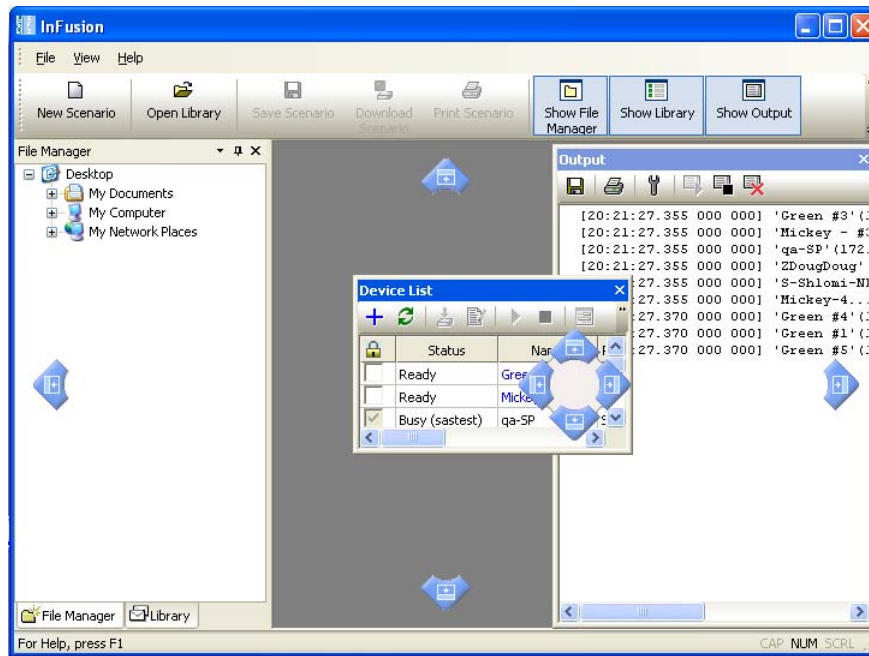
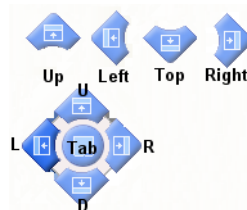

Figure 4.7 Application Display: Smart Docking Activated
Figure 4.8 Smart Docking Positioning Buttons
SASInFusion has a window-positioning feature called "Smart Docking" It allows precise positioning of windows within the application. When Smart Docking is enabled, Positioning buttons appear whenever you move a window (Figure 4.7 and Figure 4.8).
The larger button can also let you create tabbed windows. To create tabbed windows, drag the mouse over the central part of the positioning button (the Tab button in Figure 4.8).
- Step 1** Position your mouse pointer over a title bar of a window and click and hold the Mouse button. To reposition a tabbed window, click and hold on the Windows tab. The Positioning buttons appear as shown in Figure 4.8.